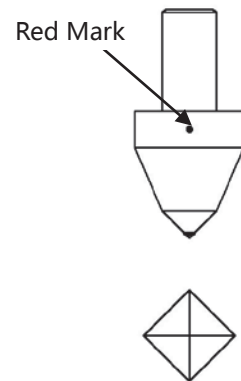

Fig7
9.1.3 The round column of the indenter is marked with a red dot. If the indenter is once unloaded, take care to make the red dot face the frontal direction when it is reloaded, and the focus of the diagonal line of the indentation should be aligned with the red dot. It is possible to make the alignment of the cross-shaped in the microscope line with the diagonal line of the indentation. If the indentation observed is not aligned with the cross-shaped line, please unscrew the screw on the indenter, turn the indenter a bit and then fasten the screw, and then make the alignment again through tests until the alignment is all right to your satisfaction (See Fig 7)